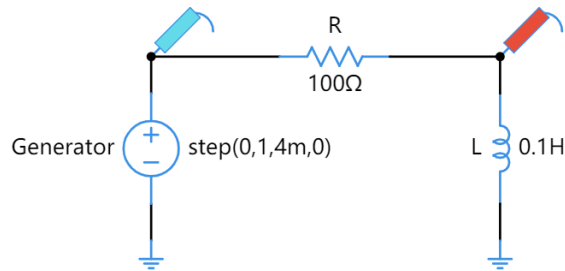

Fig.7. Circuit configuration for the first-order RL simulation
1. Build the circuit in Fig. 7.
4. Now, you can run the simulation using the icon “TRAN”. In the “TRAN” solver, two “Voltage probes” should be put at the two ends of the resistor, as shown in Fig.7. You should find a suitable stop time (for example 0.02s) for your simulated results.